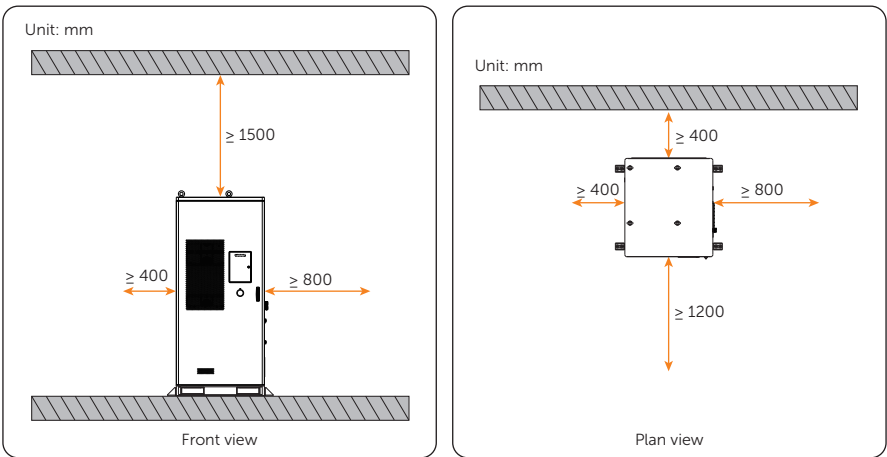

Figure 4-8 Single cabinet
- Single cabinet (see Figure 4-8)